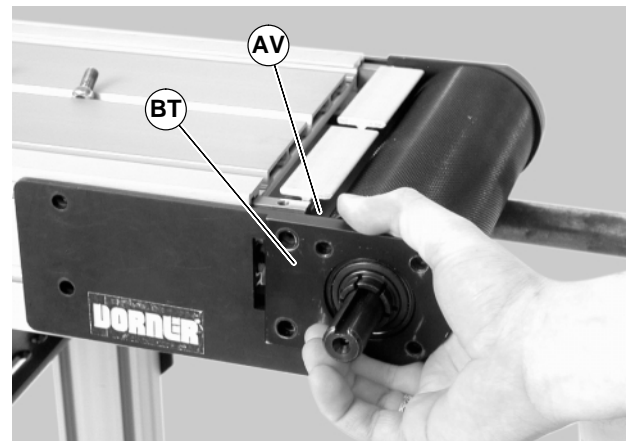

Figure 52
7. Remove the outer headplate assembly (BT of Figure 52), and inner spacer (AV).